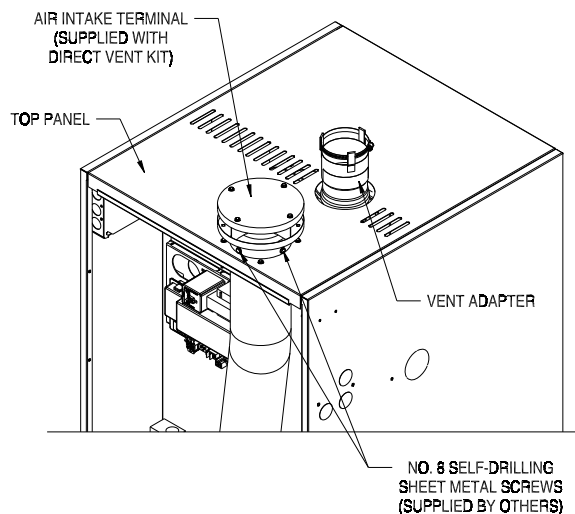

Figure B-2: Air Intake Terminal (Installed on Air Intake Collar)
- The Direct Vent Conversion Kit described in Appendix A is often required to avoid burner “resonance” (a low-pitched humming noise) when the boiler is installed at altitude. If the Direct Vent Conversion Kit is required to eliminate this noise, combustion air may still be drawn from indoors if desired – see Figure B.2).
If indoor air is used for combustion - The installer may elect to not install the Direct Vent Conversion Kit unless burner resonance is observed. If the Direct Vent Conversion Kit is used, install it according to the instructions provided with the kit. After verifying that there is an adequate air supply inside the boiler room (see Section 5), install the intake terminal directly on the boiler's intake collar as shown in Figure B-2. Secure with at least two sheet metal screws.